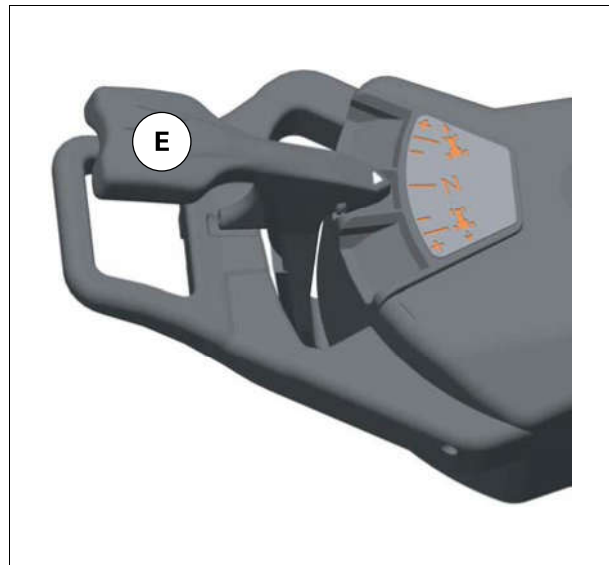

Fig. 2.
NOTE: Shuttle lever (E) *fig. 2* may also be used to change the Powershift ratios (*see §3.3.5*).